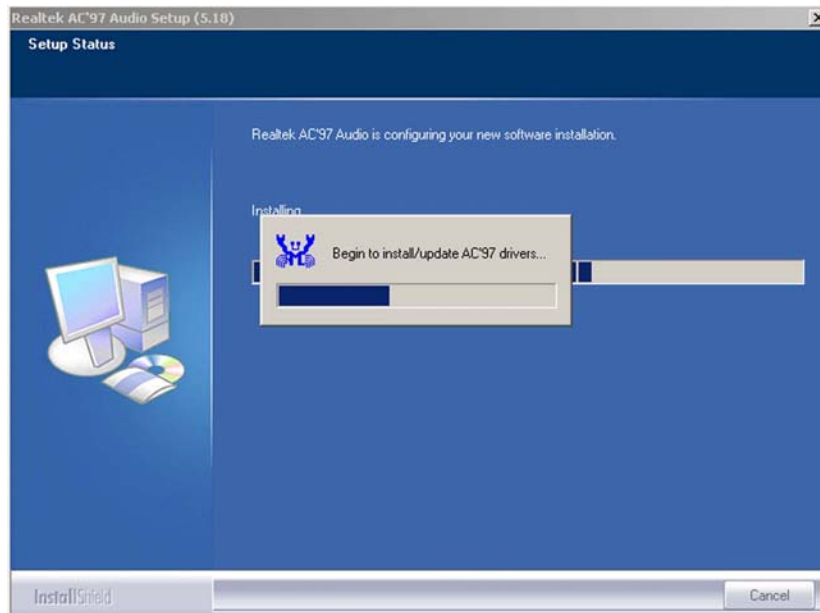

Figure 7-29: AC'97 Audio Driver Installation Begins
Step 8: After clicking the “YES” button in **Figure 7-28**, the installation of the driver begins (**Figure 7-29**).